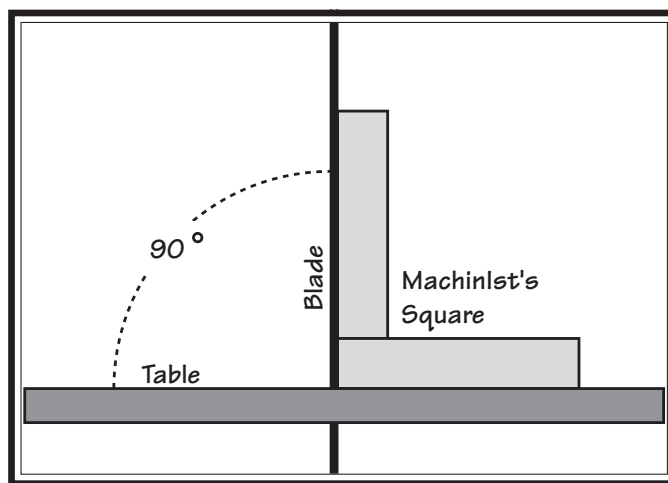

Figure 41. Checking that table is perpendicular to blade.
4. Place a machinist's square on the table and against the side of the blade, as shown in **Figure 41**.